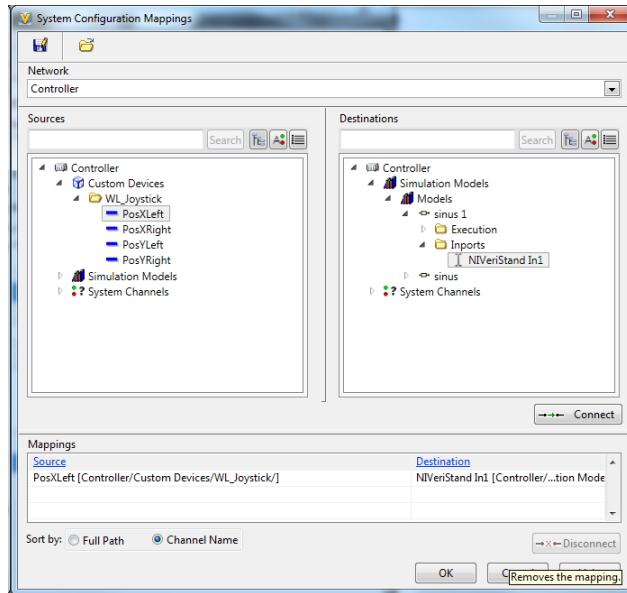

Figure 21: VeriStand System Configuration Mappings
4. Configure mappings, by pushing the icon at the top of the window, to connect signals between custom devices, FPGA and models. Expand the trees to find the desired signals and click Connect, as in Figure 21.